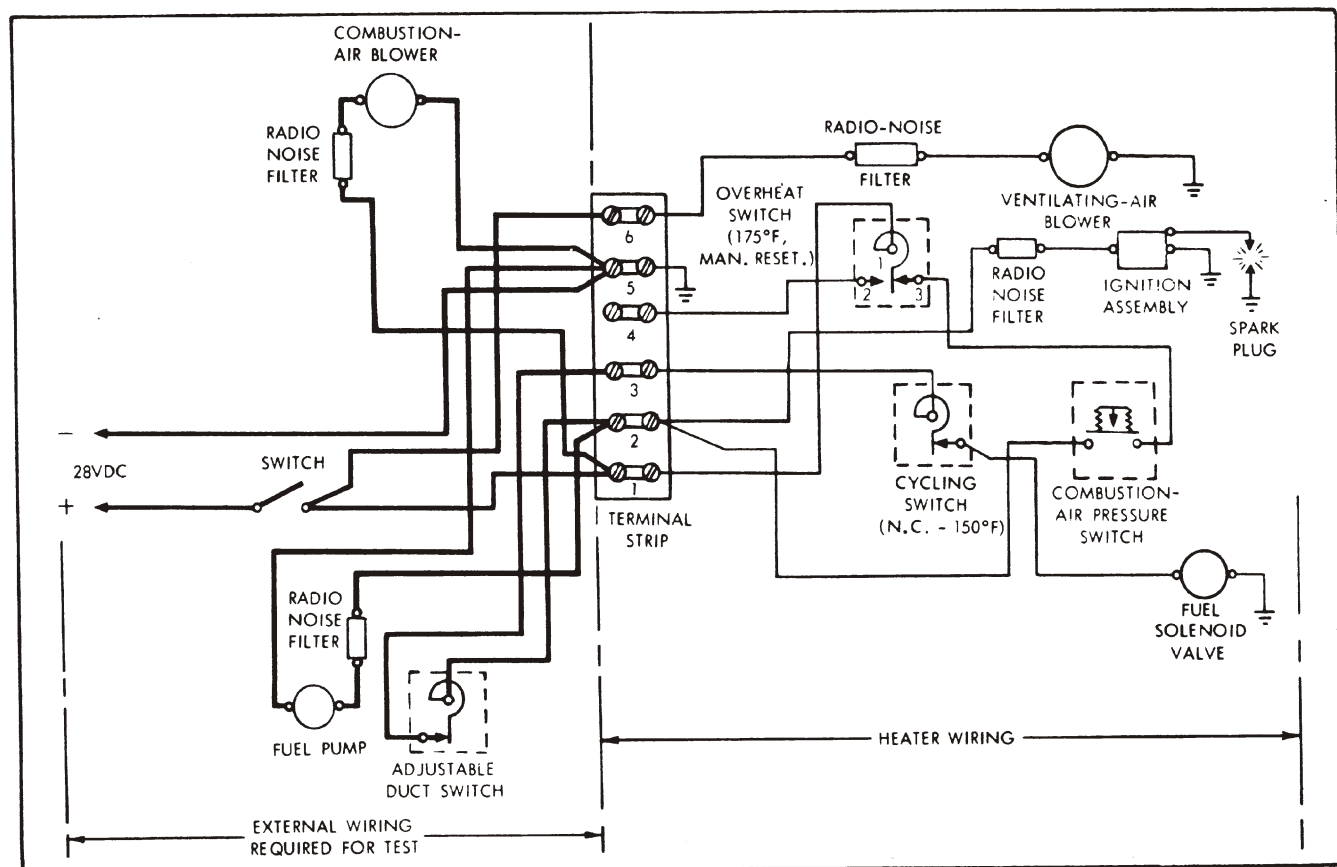

FIGURE 5-2 Wiring Connections for Heater Operation Test (Typical)
- c. Connect components and heater as outlined in the wiring connection diagram, Figure 5-2. The power supply switch should be open.